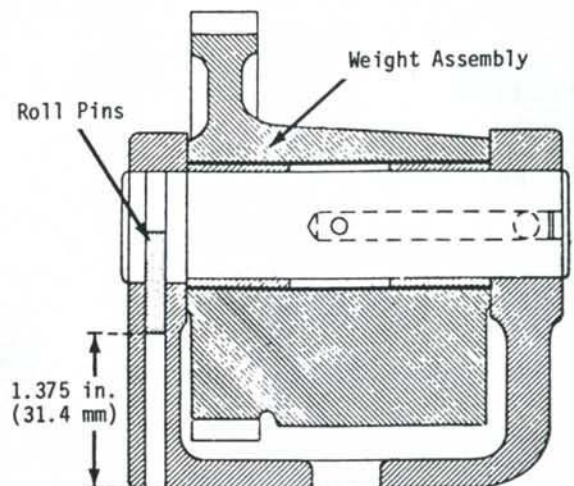

Fig. 54—Sectional view of balancer weight gear, housing and shaft showing correct installation of roll pins. Roll pins must be shorter than shaft diameter.
When reassembling, make certain that oil passages in housing and shafts are clean. Lubricate shafts and weight gear bushings and place drive weight gear (4) in housing. Install weight shaft from roll pin side of housing through the weight gear. Align roll pin hole in shaft with roll pin hole in housing, then tap shaft into position. Install double roll pins (8) as shown in Fig. 54.